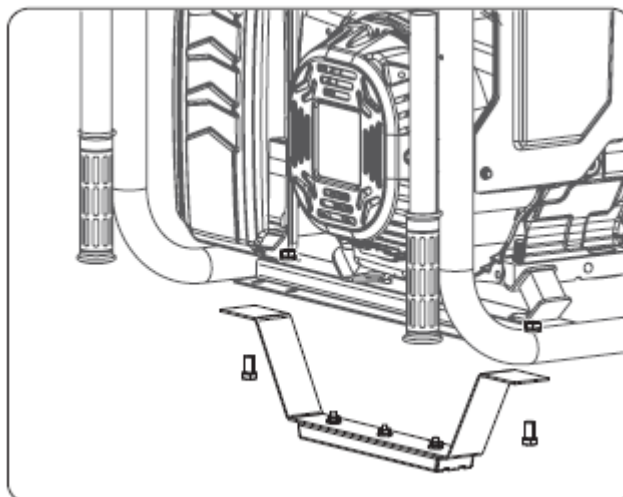

Fig.3
6.3 Installing Support Leg (See Fig.3)
- Parts needed - Support leg & M8 screw (2).
- Attach the support leg using M8 screws (2).
- Installing the handles (See Fig.3)